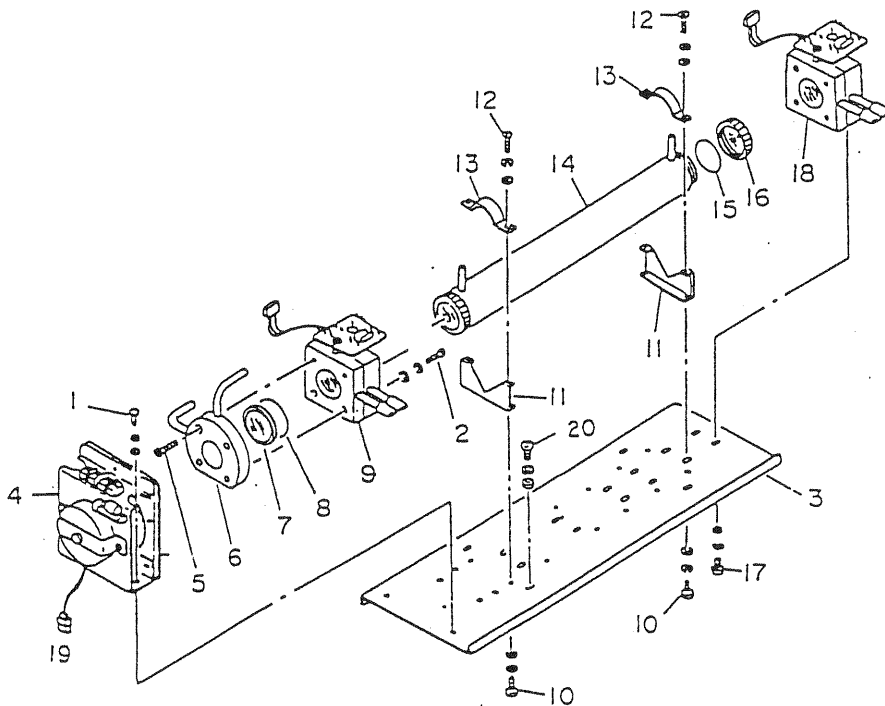

Fig.6.3 Exploded view of measuring unit
There are 2 types of measuring cell, one is a block cell (cell lengths: 4mm, 8mm, 16mm & 32mm) and the other is a pipe cell (cell lengths: 64mm, 125mm & 250mm). In case of a dual components analyzer, there is a combination cell type, which is composed of both types of cells in the optical system. For this type, disassemble pipe cell first then the block cell. (refer to Fig. 6.3)
- (3) How to disassemble combination cell: (Refer to Fig.6.3 next page)
- a. Proceed the same procedures described in a.~d. of (1) how to disassemble pipe cell.
- f. Remove both wiring to 2 pin terminals of the infrared source unit and 2 pin connectors(No.19 in Fig.6.3) of the chopper motor.
- g. Remove 4 screws(No.20 in Fig.6-3) for fixing the base plate(No.3 in Fig.6.3) and take out the measuring unit.
- Window(No.7 in Fig.6-3) on one side of block cell is not fixed, therefore, care not to break it by falling down.